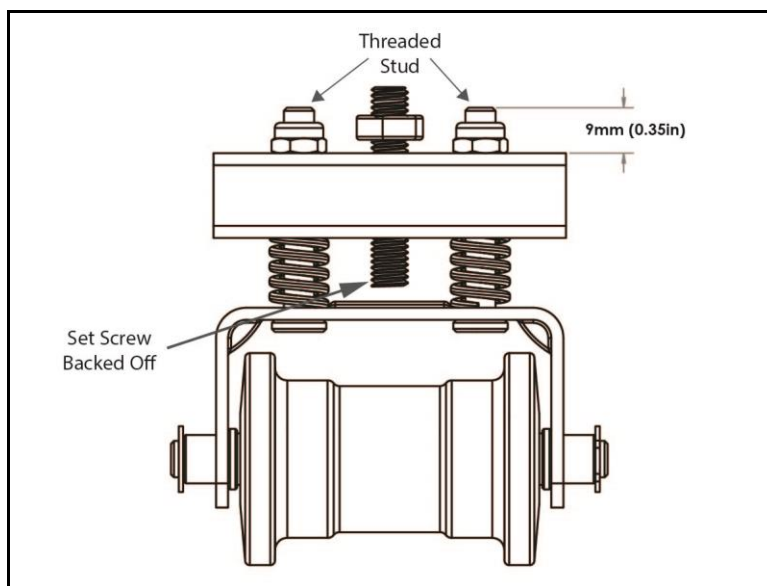

Fig. 8
8. Locate the rear roller tensioning assembly and verify that there is approximately 9mm (0.35in) of stud protruding from the base plate (Fig. 8) prior to commencing assembly. If the springs need to be compressed; verify that the center set screw is backed off to prevent it from bending the roller holding bracket.